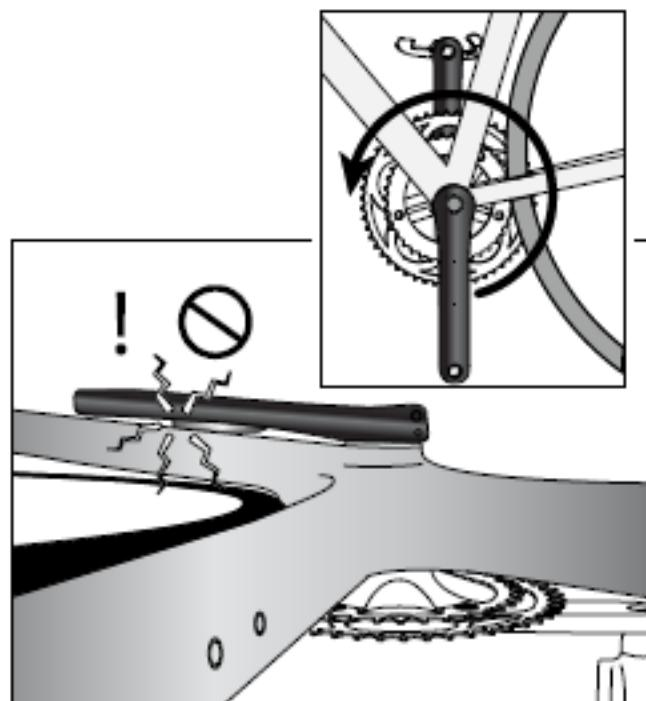

FIG 7
3. Carefully and slowly rotate the crank 1 full revolution to ensure there is no contact between the power meter sensor housing and any part of the frame or other components as illustrated in **FIG 7**.